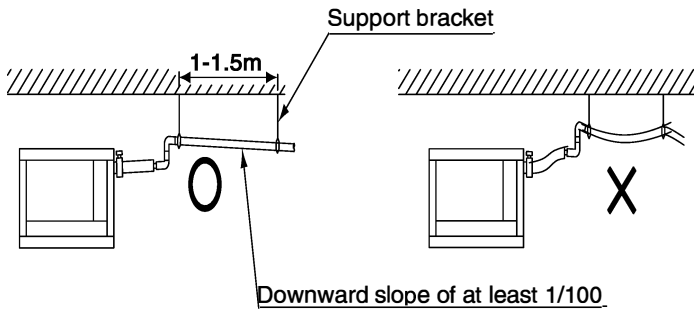

Fig. 10
(1) Carry out drain piping.
- Install the drain piping as short as possible with downward inclination of 1/100 or more and such that air may not stagnate. (Refer to Fig. 10)
- Install supports at a distance of 1 to 1.5 m so that the piping may not deflect. (Refer Fig. 10)
- Make sure to use the attached drain hose (2) and the metal clamp (1).